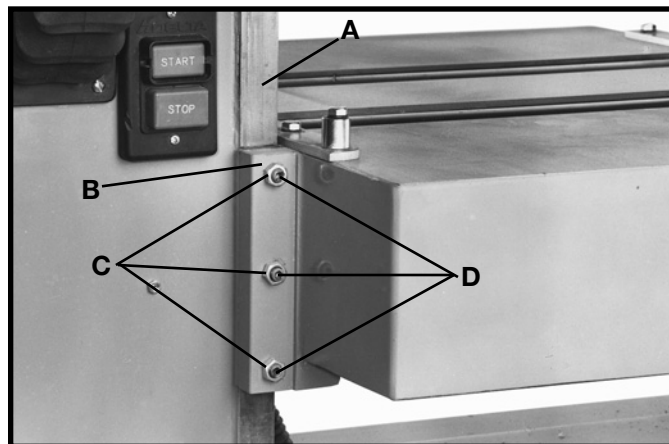

Fig. 54
2. With the table in the locked position, and with a feeler gage, measure the gap between table gib (A) Fig. 54 and table bracket (B). When set correctly the gap should be .005".
3. If an adjustment is necessary, loosen three locknuts (C), and turn three adjustment screws (D) Fig. 54, as necessary to set the correct gap.
4. Check and adjust the gap on the other side of the table in the same manner. Tighten six locknuts, three of which are shown at (C) Fig. 54, after adjustment is made.